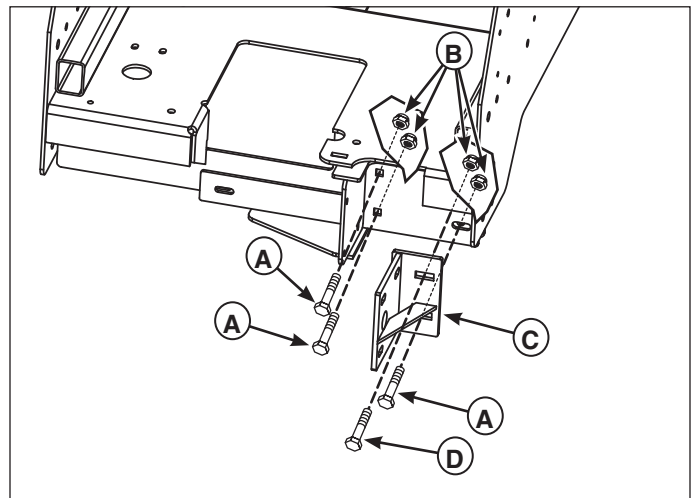
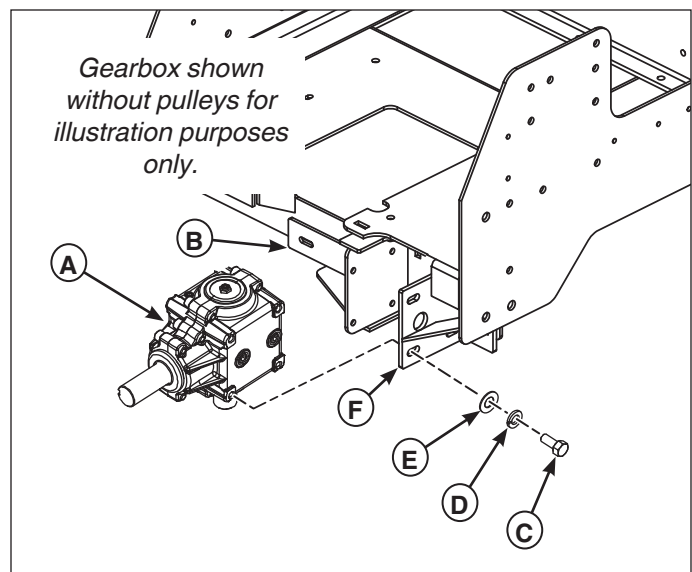

Figure 10. Installing the Gearbox Bracket Weldment
Figure 11. Installing the Gearbox
10. Install two (2) 3/8 X 1-1/4" carriage bolts (**A, Figure 10**) through the holes drilled in step # 9 and secure with new 3/8 nylon flange nuts (**B**). Tighten this hardware.
13. Refer to Figure 10. Loosely install the gearbox bracket weldment (**C, Figure 10**) using a 3/8 X 1-1/4" carriage bolt (**A**) and a new 3/8 nylon flange nut (**B**) in the upper hole. In the lower hole, use a 3/8 X 1-1/2" carriage bolt (**D**) and a new 3/8 nylon flange nut.
1. Install the gearbox (**A**, **Figure 11**) to the gearbox support weldment (**B**) using four (4) 5/16-18 X 1" bolts (**C**), 5/16 lock washers (**D**) and 5/16 flat washers (**E**). Tighten this hardware.
2. Press the gearbox bracket weldment (**F**) up against the gearbox and forward until it contacts the frame and loosely install (4) 5/16-18 X 1" bolts, 5/16 lock washers and 5/16 flat washers.
3. Tighten the carriage bolts (**A & D**, **Figure 10**) and 3/8 nylon flange nuts (**B**) that secure the gearbox bracket weldment (**C**) to the frame.
4. Tighten the four (4) 5/16-18 X 1" bolts (**C**, **Figure 11**), 5/16 lock washers (**D**) and 5/16 flat washers (**E**) that secure the gearbox bracket weldment (**F**) to the gearbox (**A**).